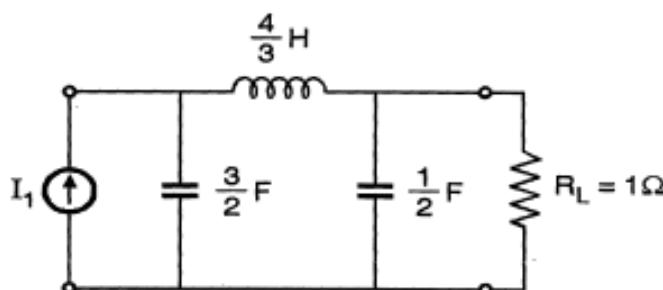

Figure 2
- c) Normalized third order Low pass filter is shown below in Fig. 2